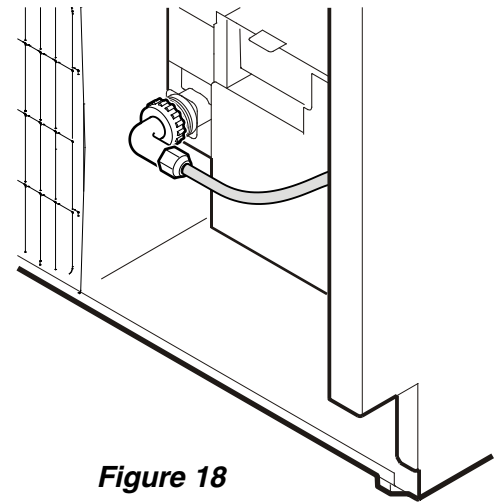

Figure 18
8. Screw the OD adapter onto the solenoid valve (**Figure 18**).